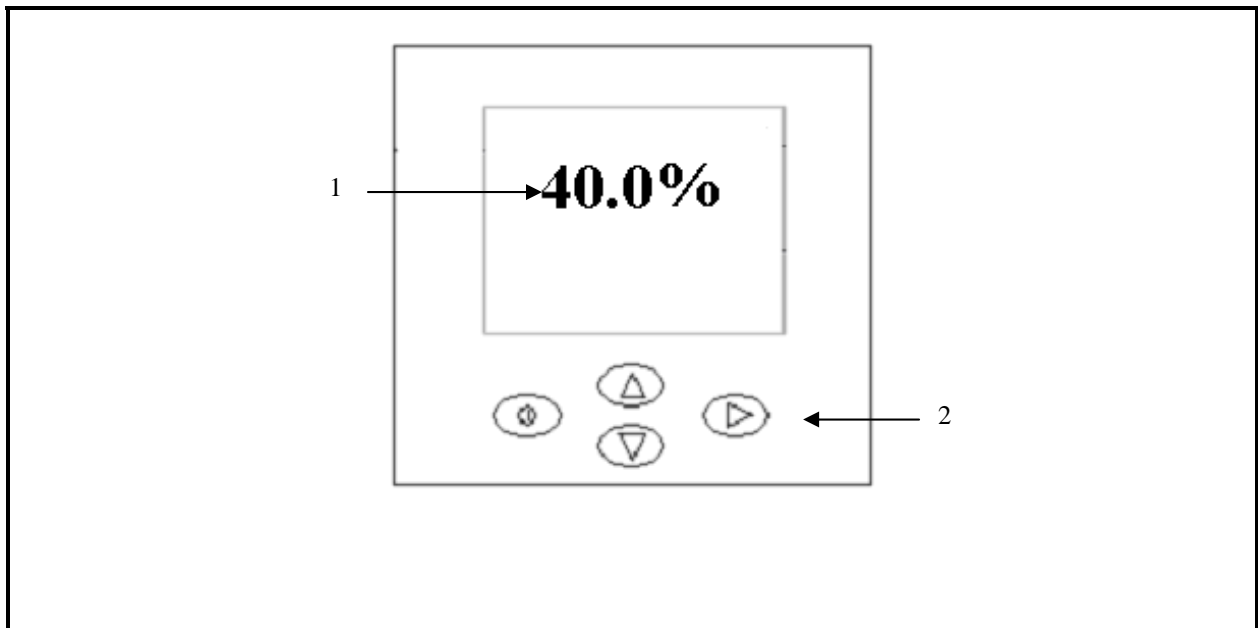

Figure 1. Wall Sensor LCD Display
A. Legend for Figure 1.
- (1) Display of current humidity value.
- (2) Buttons for operating the humidistat: